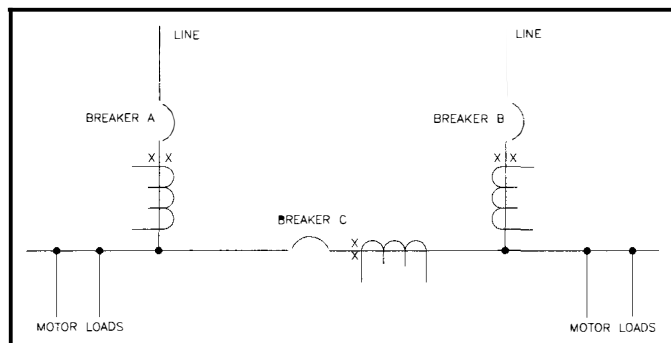

Figure 3.5 Power Distribution
- Power Distribution. Typically you will encounter three conditions when monitoring power distribution (Refer to Figure 3.5):